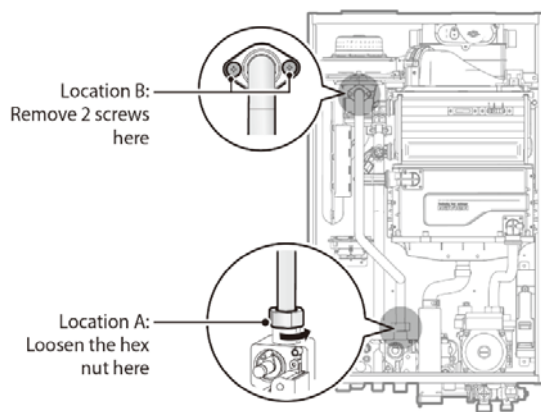
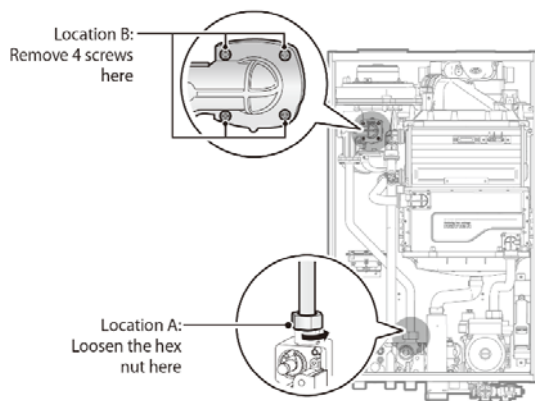

Figure 3-1. Detaching Gas Inlet Pipe from Gas Valve and Fan Motor Assembly (NCB-24/28/34LSWE)
Figure 3-2. Detaching Gas Inlet Pipe from Gas Valve and Fan Motor Assembly (NCB-40LSWE)
9. Loosen the hex nut at location A - the connection above the gas valve where it connects to the pipe (refer to Figure 3-1 and Figure 3-2). When the hex nut is loosened, carefully separate the pipe from the gas valve.